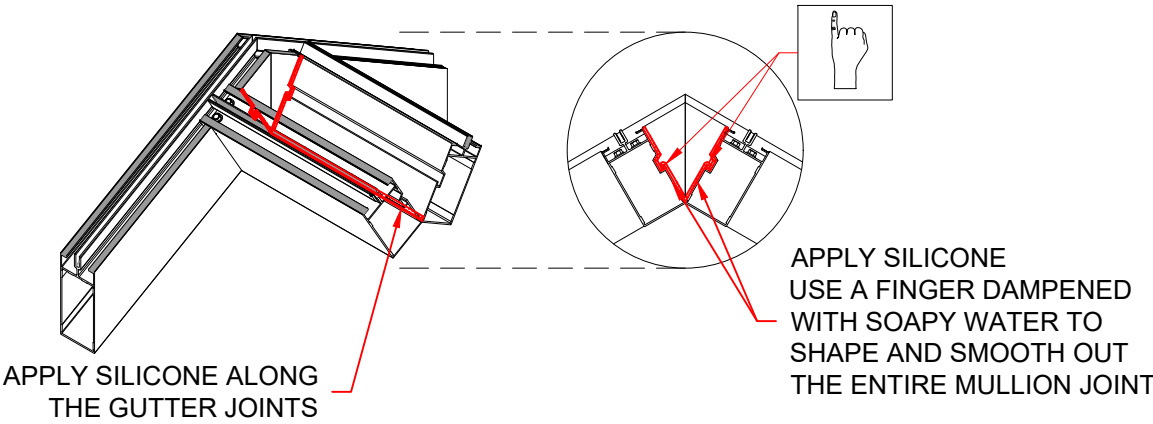

FIGURE 9: APPLY SILICONE
2. AT THE RIDGE OF THE SKYLIGHT, USE SILICONE SEALANT WHERE THE MULLION PROFILES MEET, **SEE FIGURE 9.**